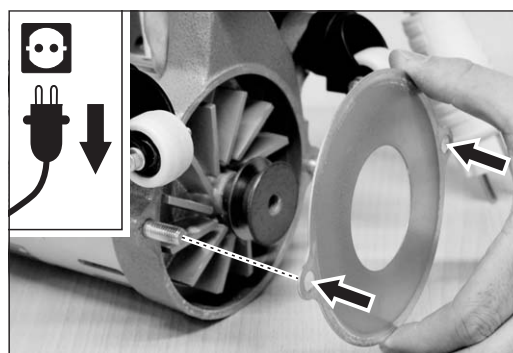

Fig. 49 Place the fan cover on the machine.
- 8 Place the fan cover on the machine (fig. 49).